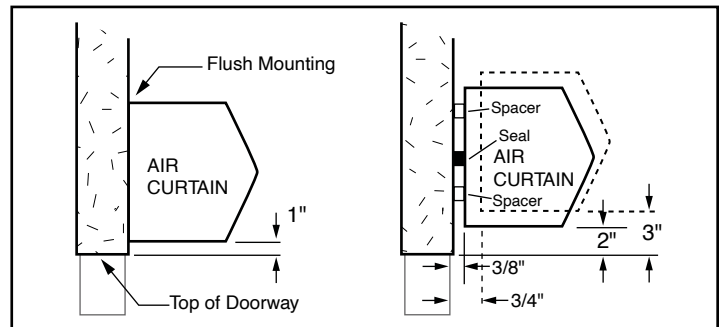

**Figure 2**
- A. When determining the mounting location for the air curtain(s), make sure that nothing interferes with the curtain of air developed when the discharge vanes are directed from 0° to 20° toward the door opening. If the air stream strikes any obstruction (the top edge of the doorway, a door opening device, etc.), the effectiveness of the air curtain will be greatly reduced. **See Figure 2.**